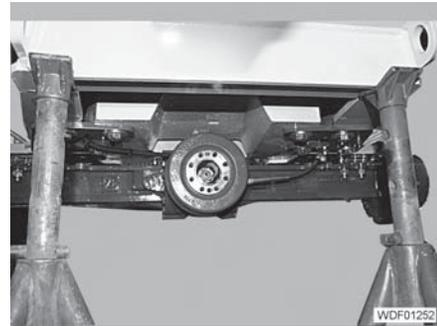

Fig. 246 Front axle support
- Raise the front carriage and remove the jack stands (Fig. 246).